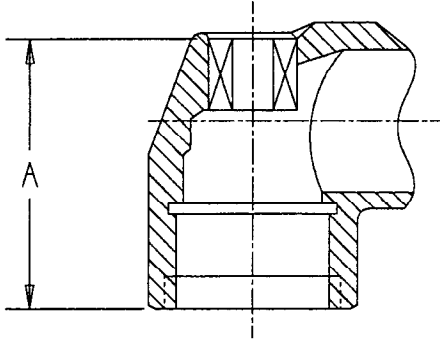

Figure 9 (Dwg. TPD680)
6. If the Upper Spindle Bearing (102) has been removed, proceed as follows:
**For DAA2 Angle Attachments**, press on the closed end of a new Spindle Bearing entering the Bearing into the small bore opposite the threaded end of the Angle Head to the dimension shown in Figure 9.